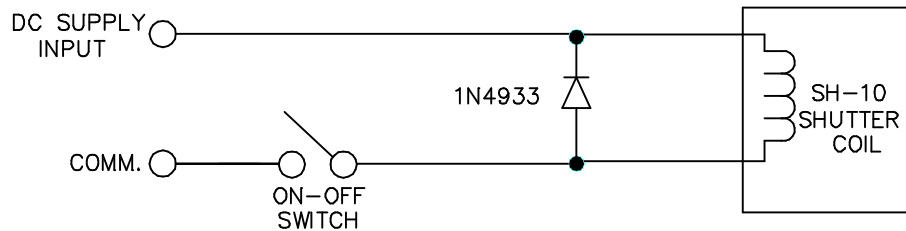

FIG. 1
1. THE SH-10 WILL "OPEN" WHEN IT IS CONNECTED TO A DC POWER SUPPLY (SEE FIG. 1 AND TABLE 1)